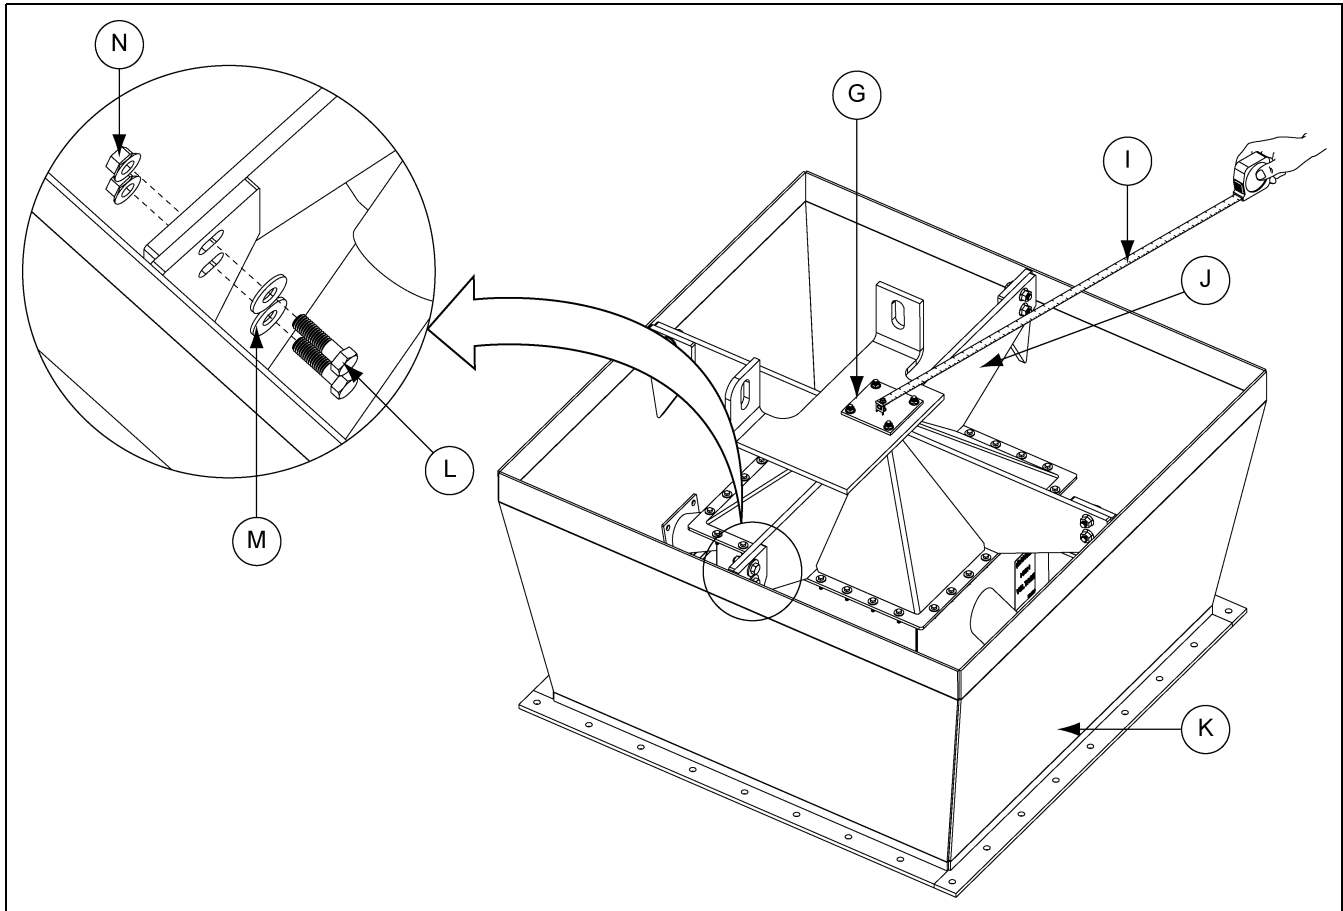

Figure 4B
- Install the cross brace assembly (J) into center well (K). Temporarily attach cross brace flanges to center well using hex bolts (L), flat washers (M) and flange nuts (N). *(See Figure 4B.)*